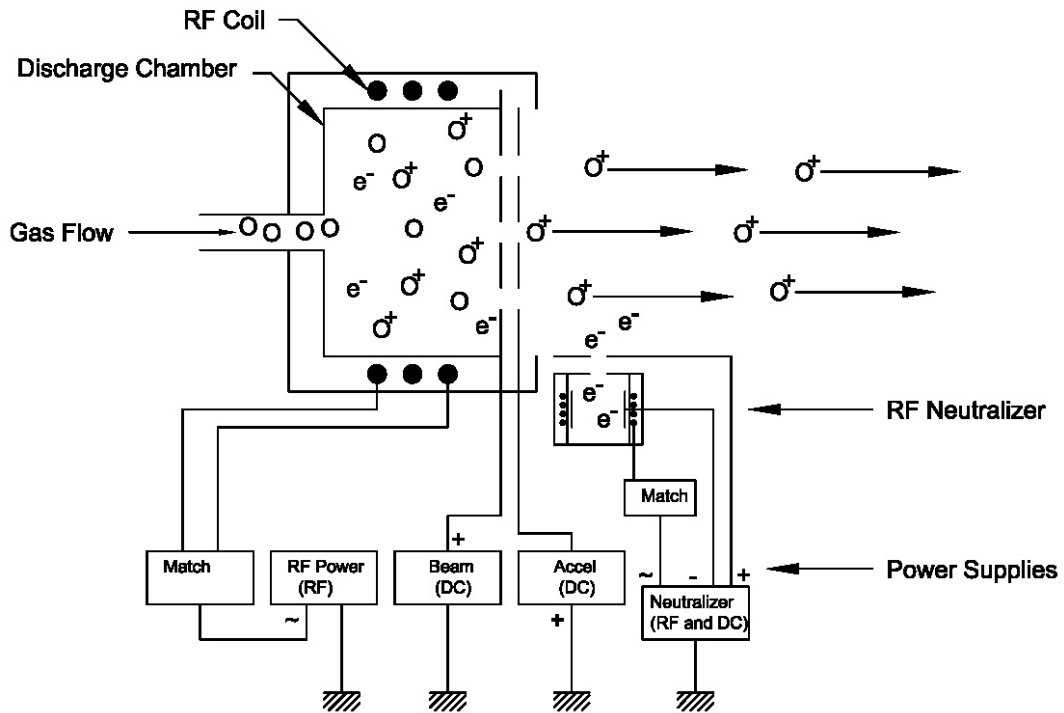

Figure 4. Electrical schematic for a RF source.
In Figure 4, the electrical connections for a RF source with RF neutralizer are presented. The RF coil for the discharge chamber is energized by the RF supply and is tuned by using a matching network. The beam supply, a DC bias supply, is connected to the screen (S) grid in order to bias the discharge plasma positive with respect to ground. The accelerator supply, a DC type supply, biases the accel grid negative with respect to ground. Finally, the RF